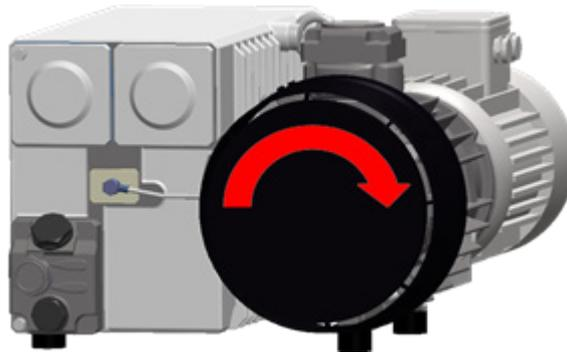

Figure 8: Direction of Rotation of the Vacuum Pump
3. Check the correct direction of rotation of the three-phase model pump. See *Figure 8: Direction of Rotation of the Vacuum Pump* on page 29.